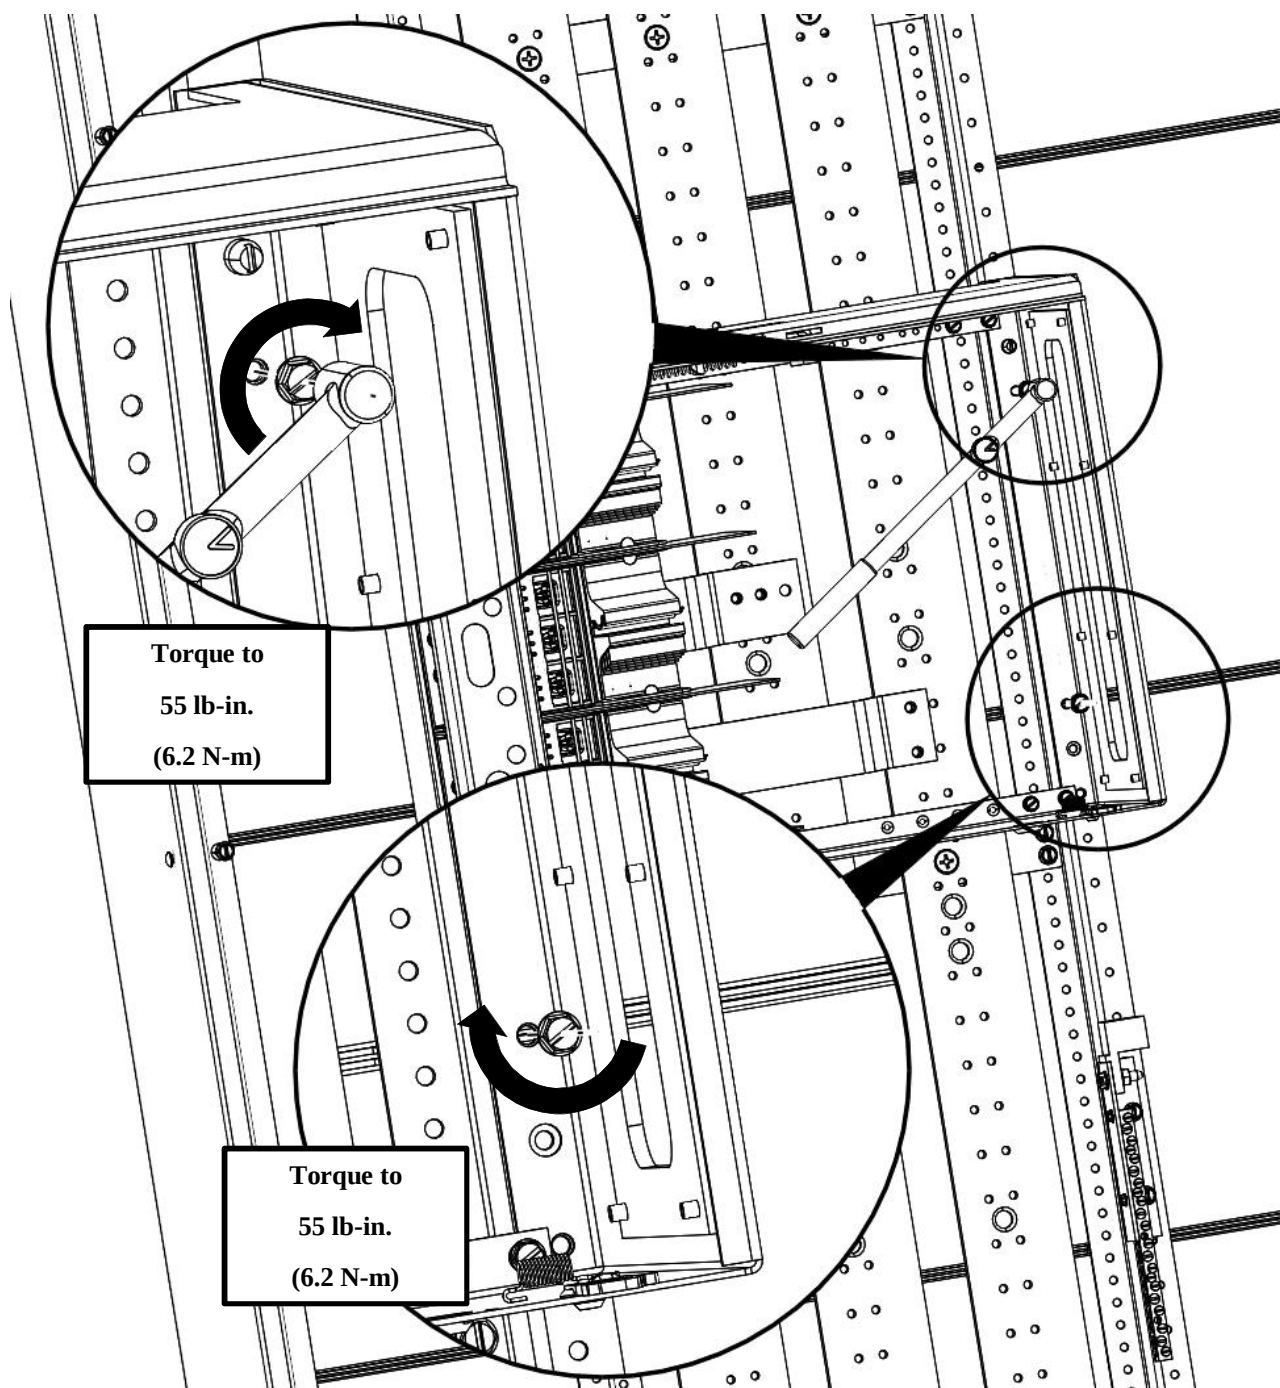

Figure 10
10. Install 2 mounting screws as shown in Fig. 10.